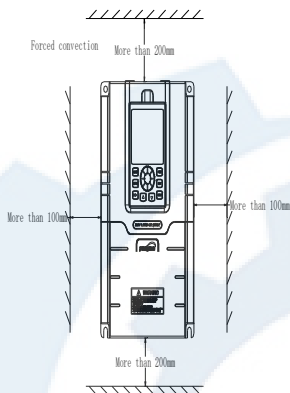

Fig.3-1 Mounting space and distance
(1) Generally in vertical way.
(2) For the requirements on mounting space and distance, refer to Fig.3-1.